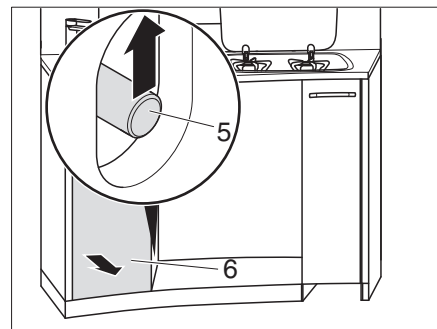

Fig. 123 Unlocking high kitchen drawers
- Grasp through the opening and slide the push rod (Fig. 123,5) upwards.